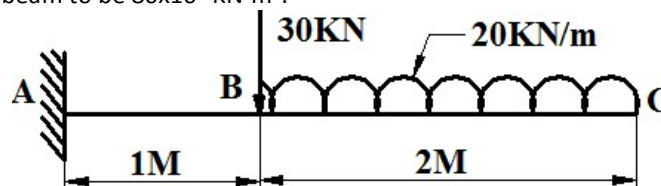

Figure 44
13. A cantilever is subjected to the forces as shown in **Figure 44**. Determine the deflection at the free end. Taking the flexural rigidity for the beam to be  $80 \times 10^4 \text{ KN-m}^2$ .